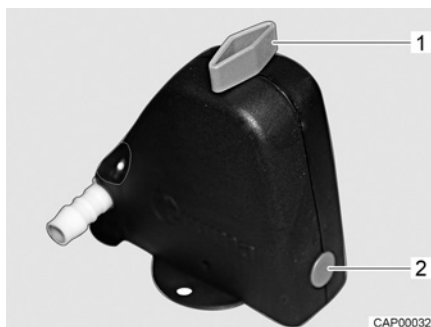
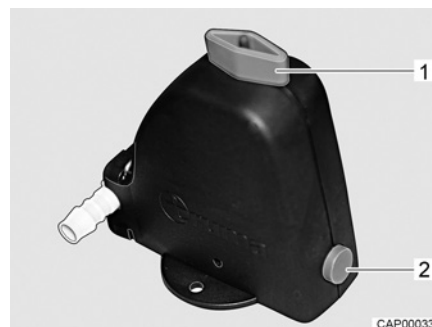

Fig. 105 Safety/drainage valve closed
Fig. 106 Safety/drainage valve open
- Open the safety/drainage valve (Fig. 105). To do this turn the knob (Fig. 105,1) parallel to the safety/drainage valve. The push button (Fig. 105,2) jumps out. The open safety/drainage valve is shown in Fig. 106.